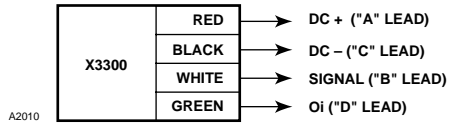

Figure 5A—Wiring Identification for X3300 with Pigtails
- Figure 5A/B – X3300 Wiring Identification
3. Make the field wiring connections following local ordinances and the guidelines in this manual. Refer to Figures 5A and 5B for identification of detector wires/terminals and Figures 6 through 10 for wiring diagrams of typical systems.